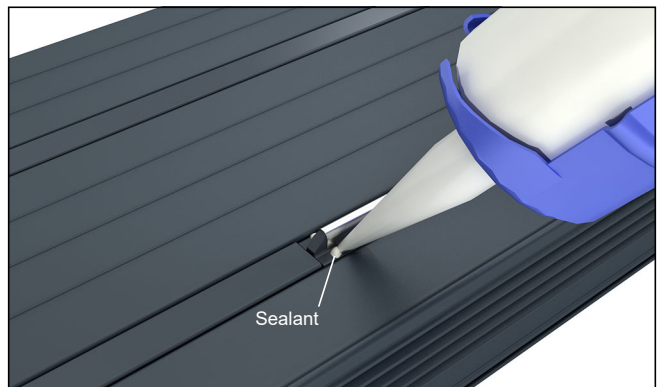

Figure 31
9. Inject sealant into holes in roller track next to the beveled ends. See figure 31.